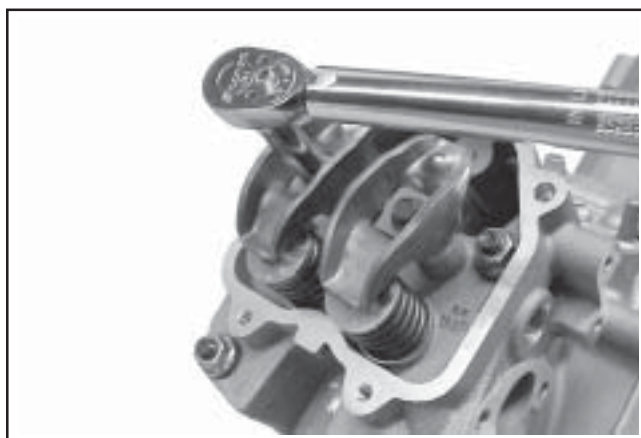

Figure 11-38. Installing and Torquing Rocker Arm Mounting Screws.
3. Install two **new** hex flange rocker arm screws with Dri-Loc® thread locking compound on the threads. Torque the screws to **11.3 N·m (100 in. lb.)**. When tightening, use a steady motion, without interruption, until the proper torque is achieved. The frictional heat from the engaging threads may otherwise cause the locking compound to set prematurely. If new screws are not available, apply Loctite® No. 242 to the bottom four or five threads. Then install and torque the screws to **11.3 N·m (100 in. lb.)**. See Figure 11-38.